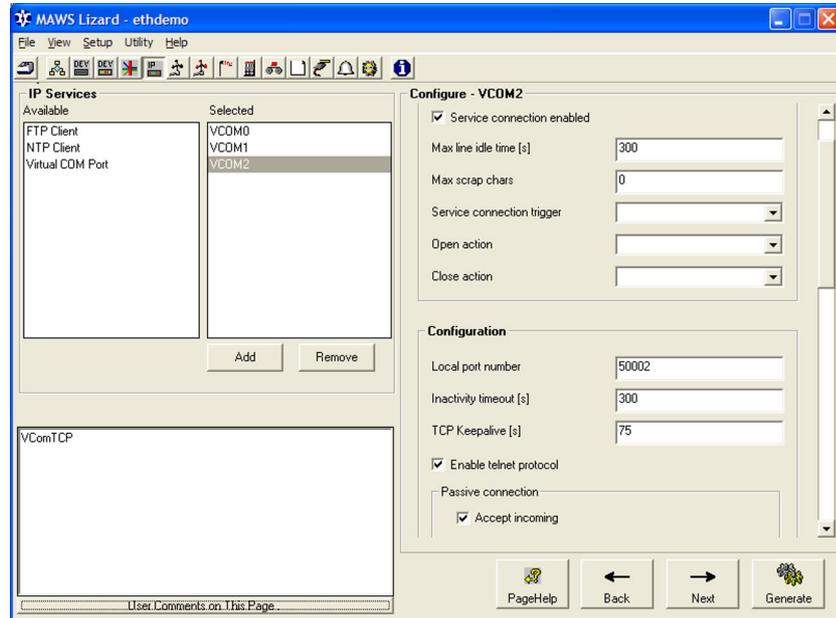

Figure 155 Virtual COM Port Configured for Service Connection
8. In the **IP Services** view, add and configure a virtual COM port for service access as shown in Figure 155 on page 316.